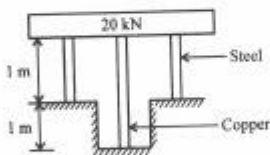

Fig. Q. 11 (b) (i)
- (b) (i) Two steel rods and one copper rod, each of 20 mm diameter, together support a load of 20kN as shown in Fig. Q. 11 (b) (i). Find the stresses in the rods. Take E for steel = 210kN/mm^2 and E for copper = 110 kN/mm^2 . (8)